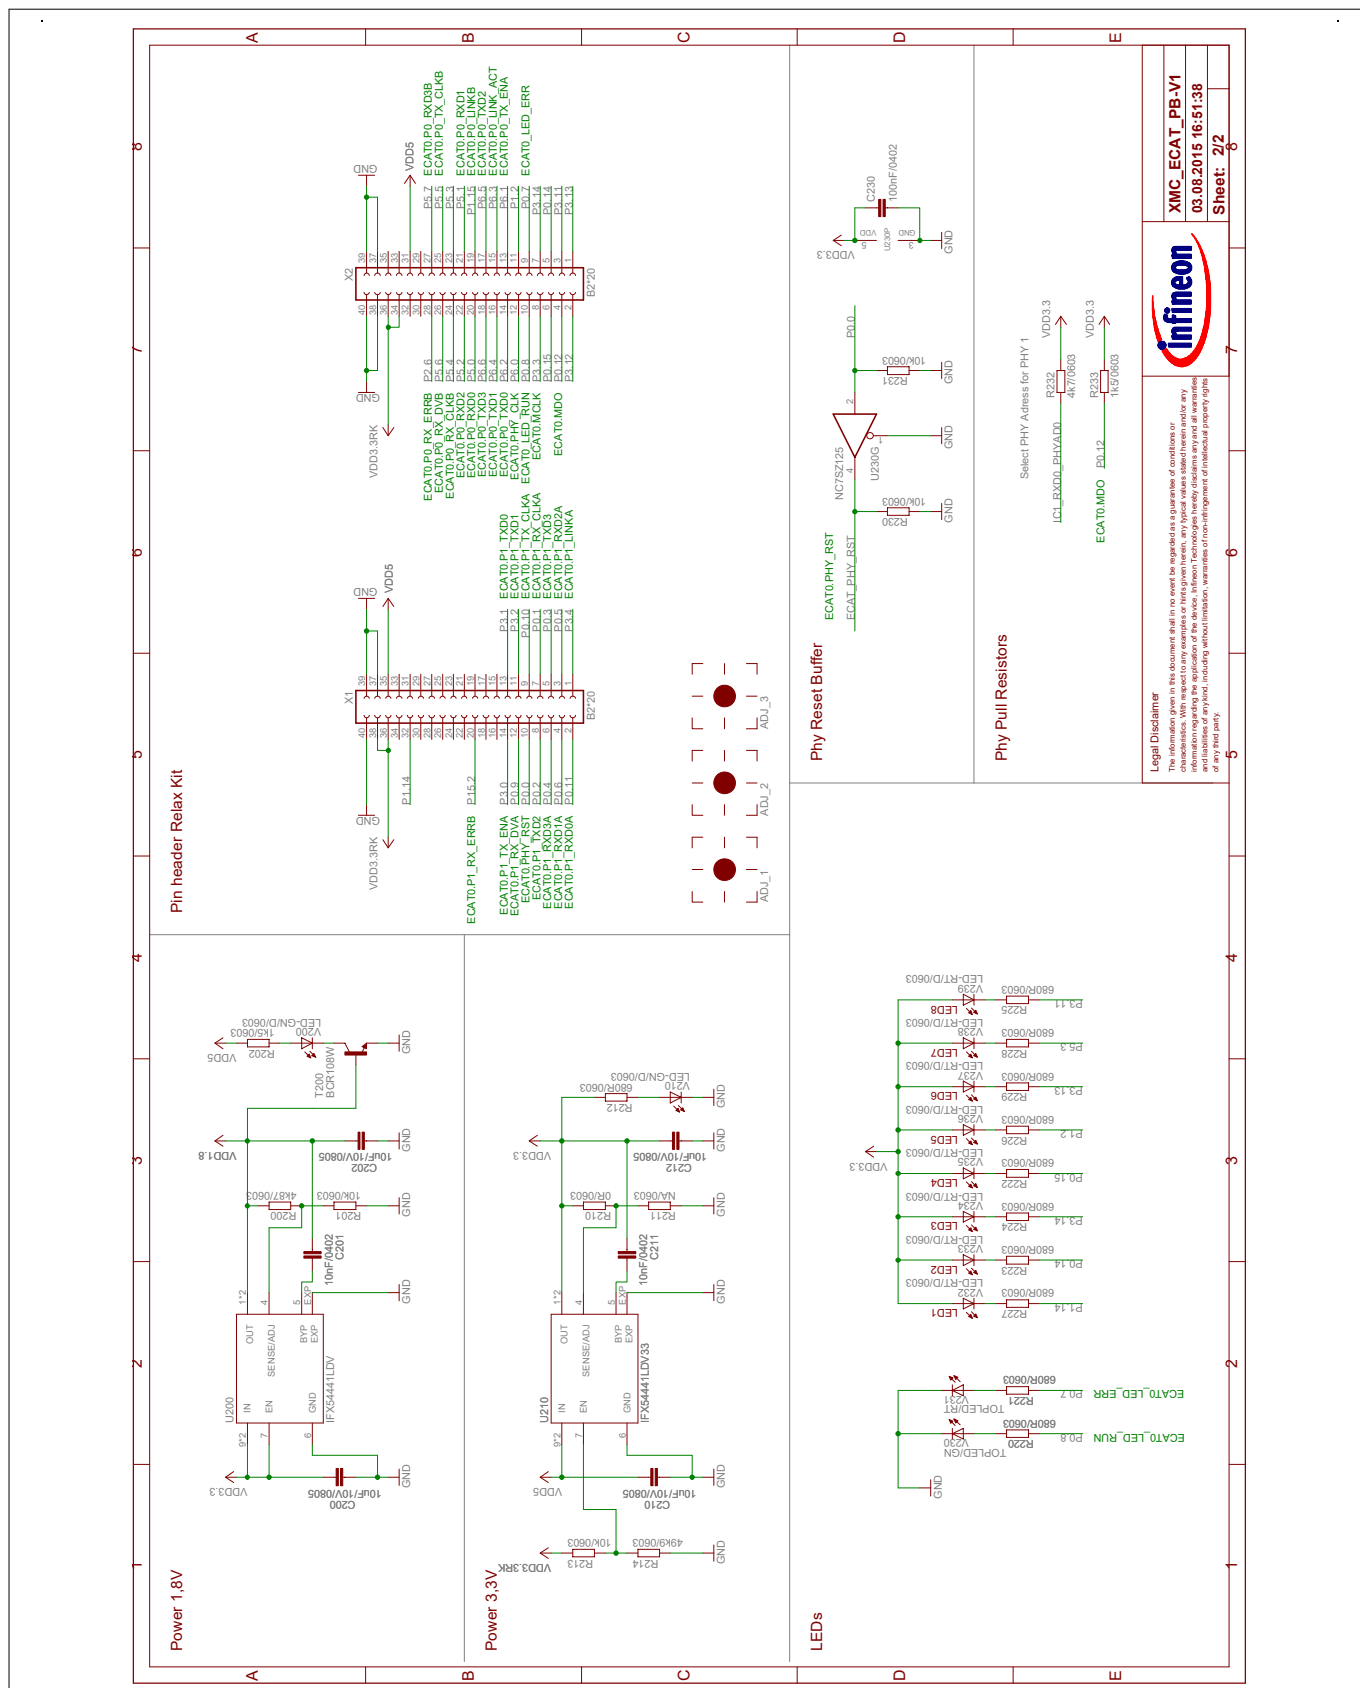

Figure 13 XMC™ EtherCAT Phy Board Schematic: Power, Connectors, LEDs
- Figure 13: XMC™ EtherCAT Phy Board Schematic: Power, Connectors, LEDs